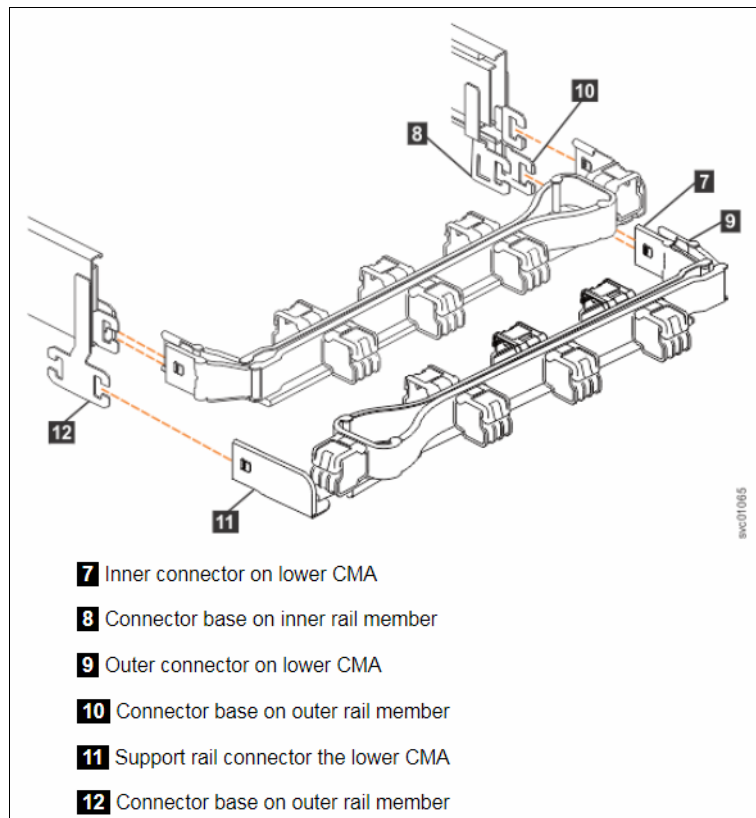

Figure 6-28 Comparison of upper CMA assembly and lower CMA assembly connectors
- c. Install the lower cable management arm assembly. The procedure for attaching the lower CMA assembly is the same as the procedure to attach the upper CMA assembly. However, the connector locations are reversed. For comparison, Figure 6-28 shows the upper and lower CMA assemblies as they are aligned to the support rails. The support rail connector of the upper CMA attaches to the right rail. The support rail connector of the lower CMA assembly **11** attaches to the left rail.
- i. Install the inner connector of the lower CMA assembly **7** to the inner member of the right support rail **8**, as shown in Figure 6-28.
- ii. Install the outer connector of the lower CMA assembly **9** to the outer member of the right support rail **10**, as shown in Figure 6-28 on page 187.
- iii. Attach the support rail connector on the lower CMA assembly **11** to the connector on the left support rail **12**, as shown in Figure 6-28 on page 187.